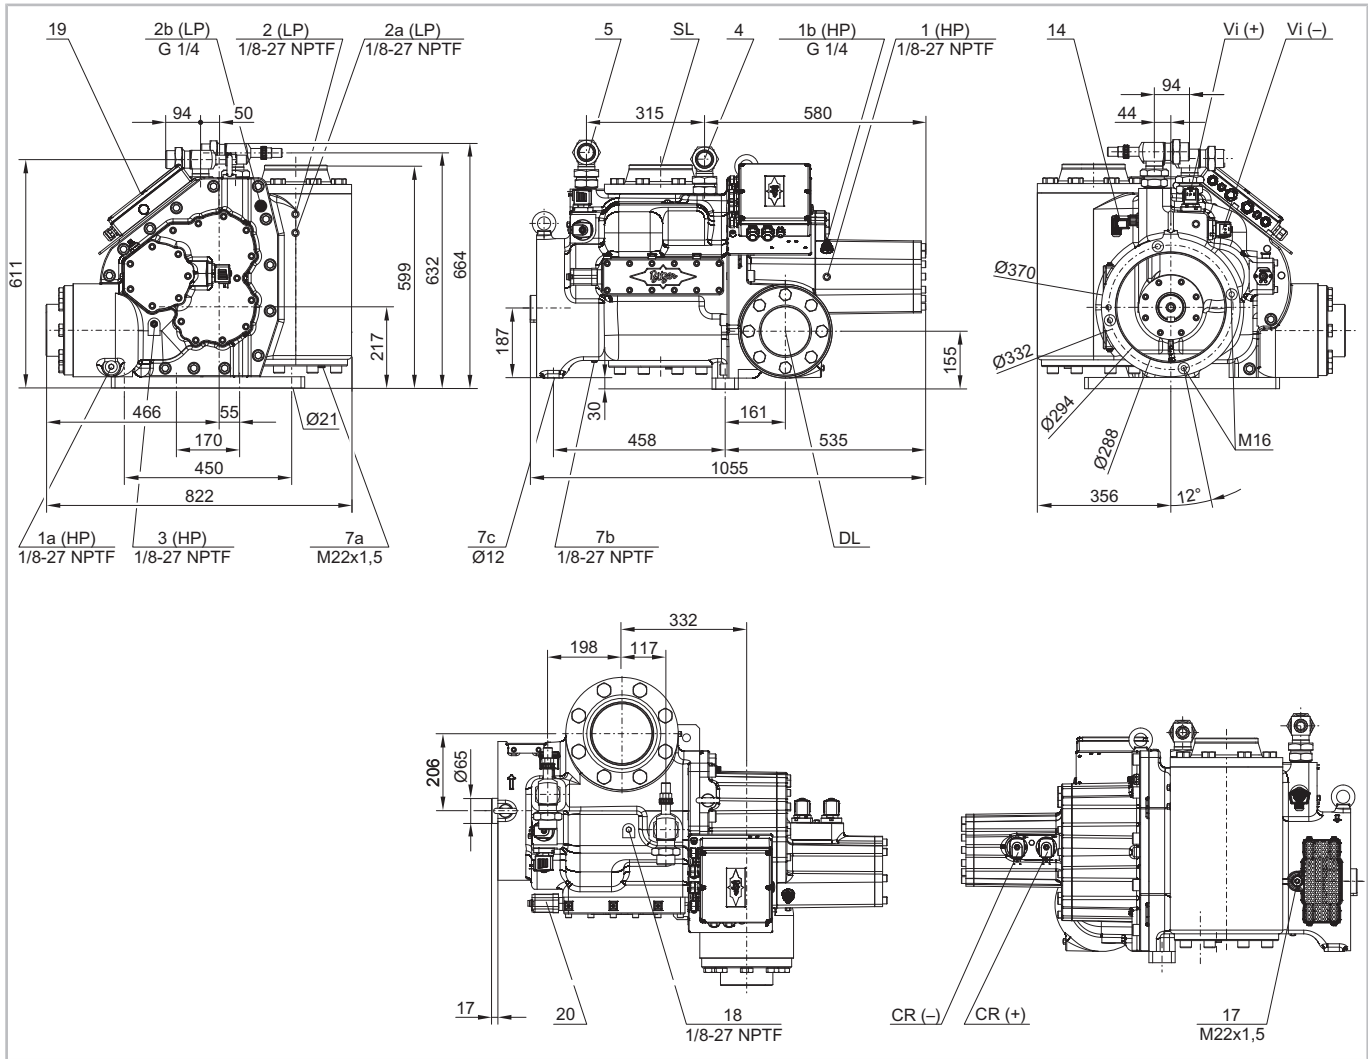

Fig. 2: Dimensional drawing OS.A95103
To prevent dry running of the shaft seal during the compressor start, charge approx. 1 l oil in the connection for oil injection (see figure 2, page 8, pos. 5).